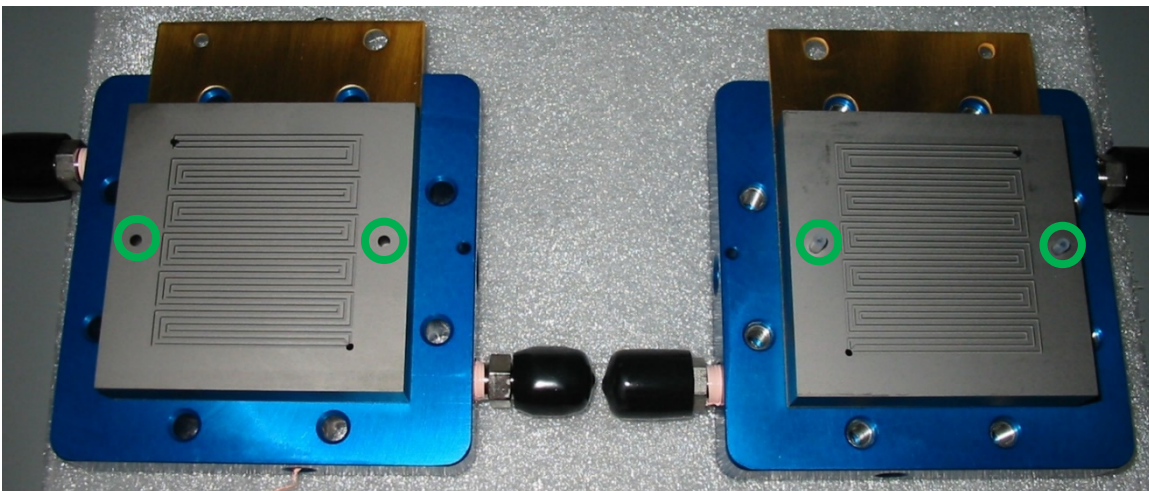

Figure 2. Detail of Scribner Associates flow fields. The green circles highlight the alignment pin tubing positions.
- i. Cut 2 pieces of the 3 mm OD tubing, each 10 mm length. See Figure 7. Place these pieces in the green positions shown in Figure 2.